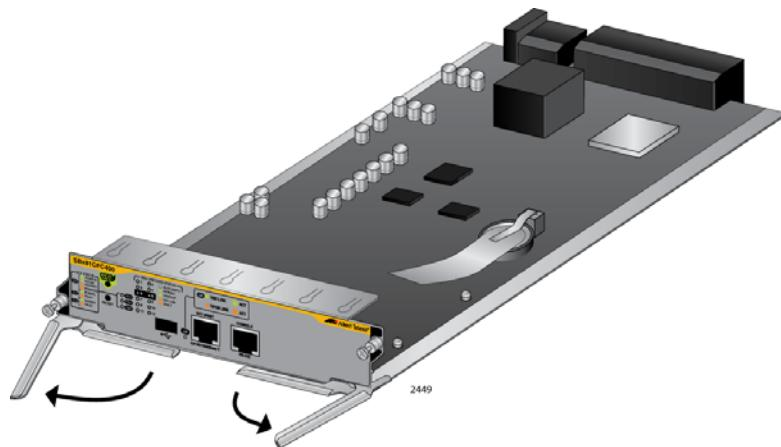

Figure 66. Opening the Locking Handles on the AT-SBx81CFC400 Controller Fabric Card
4. Move the locking handles on the front panel to the open position, as shown in Figure 66 on page 112.